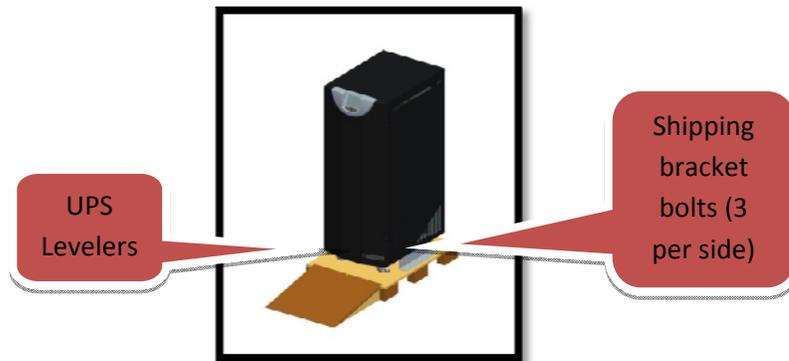

Fig. 2-4
7. The UPS is attached to the shipping pallet with two shipping brackets—one on each side of the UPS. Using an adjustable wrench or 19mm socket, remove the three bolts that attach the bracket to the UPS. If your location has a Seismic requirement, please contact factory for Seismic installation instructions. (Fig. 2-4)